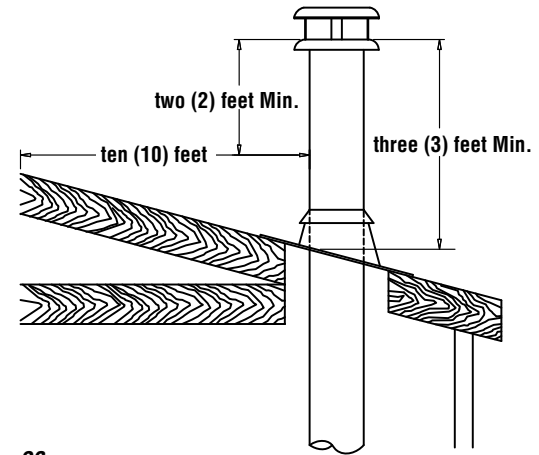

Figure 26
6. All chimney installations must include at least one support in order to be able to take any lateral load. The maximum chimney length that can be supported by the fireplace is nine (9) feet (2.75 m) for Secure Temp S2100+* / Nova Temp HT6000+* / Secure Temp GX* and 26 feet (8m) for ACBI* (air cooled) chimney. In altitude, add 18" (450 mm) to the chimney for every 2,000 feet (600 m) above sea level.
7. The chimney must extend at least three (3) feet (915 mm) above its point of contact with the roof and at least two (2) feet (610 mm) higher than any wall, roof or building within ten (10) feet (3 m) of it (**Figure 26**).
8. If the chimney extends higher than five (5) feet (1,500 mm) above its point of contact with the roof, it must be secured using a roof brace.